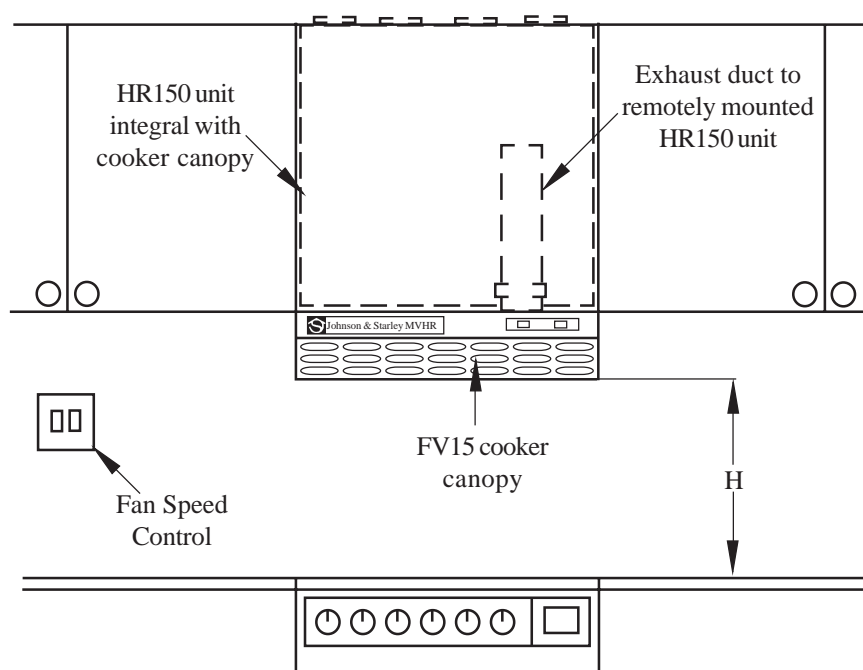

Fig. 4
Note: Installation height is subject to local regulations, but the height (H) of a cooker canopy must not be less than 450mm from the top of an ELECTRIC cooker, or less than 650mm from the top of a GAS cooker (refer to Fig. 4).
- 2.7.1 Referring to Paragraph 2.4.1 and Fig. 4, determine the height (H) of the Cooker Hood from the cooker top. Mark the base datum line for the Heat Recovery unit at $H + 150$ mm.